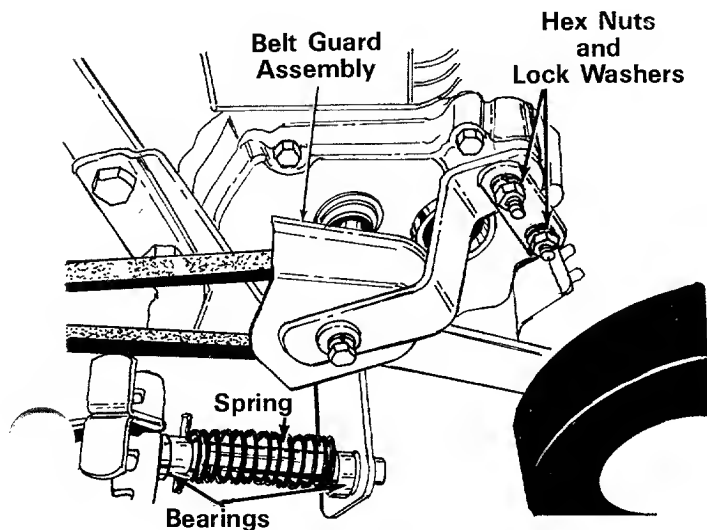

FIGURE 21
Shaft - Lubricate the two bearings and under the compression spring on the shaft with light oil at least once a season. See figure 21.
1. To remove the V-belt, remove the belt guard assembly at the engine pulley. Remove the hex nuts and lock washers. See figure 21.